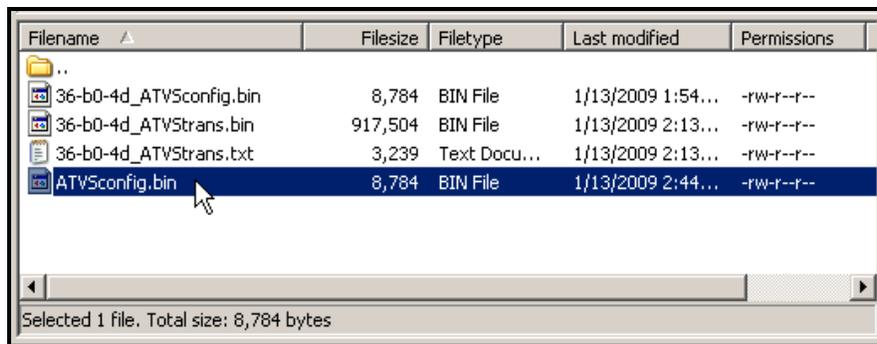

Figure 4-25. FTP Server Configuration & Transaction Files.
At the same time a Backup transaction text file is created, a Backup transaction binary file is also created. This binary file can be used by the Restore utility to restore the transaction database in a clock. This should only be necessary if the clock’s flash memory was reset. The following figure shows a Backup configuration and transaction file for the same clock on an FTP Server. In the illustration, the first file labeled “36-b0-4d_ATVConfig.bin” is the configuration file for that clock. The highlighted file (see Figure 4-25) called “ATVConfig.bin” is the shared configuration file for multiple clocks. This file can be used by the Auto-Sync Utility to copy this configuration to multiple clocks.
3. Select the radio button for “**Are you restoring this clock based on shared settings or is it specific to this clock only?**” The choices are: **Specific**, or **Shared**. Select Specific if you are restoring only the clock you are connected to. Select Shared if you are using the shared settings file (possibly a different clock) to transfer to this clock. See *Figure 4-25* for an example of a shared configuration file. The shared file does NOT have the MAC address. It is important to note, that when restoring a clock all the information will be changed except for the clock name. The current name in the clock will remain unchanged so that clock retains this unique identifier.